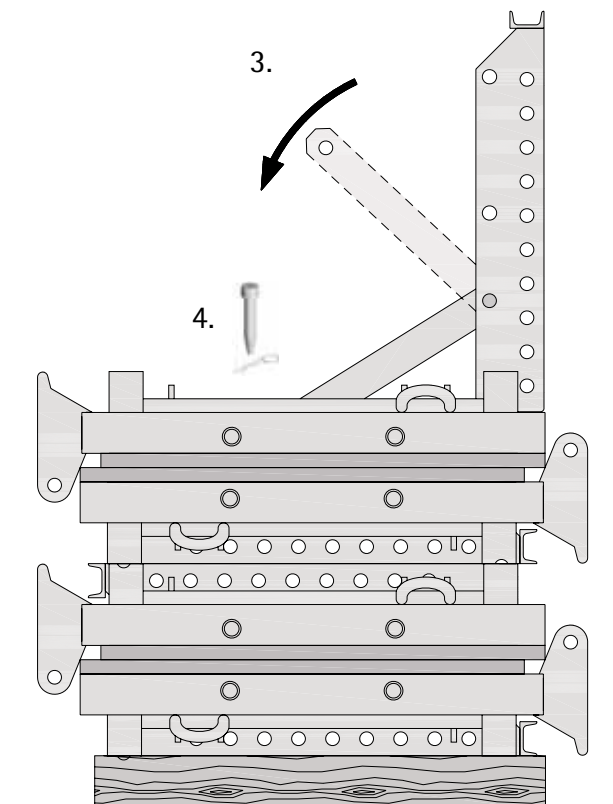

Fig. 7
3. Fold integrated diagonals downward into the frame (Fig. 7).
4. Peg the diagonals into the frame with Grip bolt and retaining pin (Fig. 7).